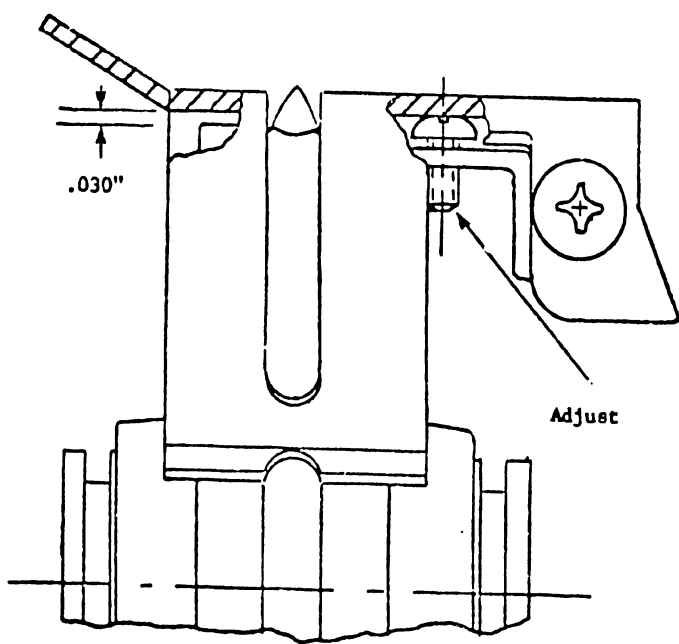

FIGURE 5-19 PAPER GUIDE COVER
- 2) The teeth of the sprocket should be centrally located in the cover slot as shown in Figure 5-19.
- 1) Adjust cover height with locking stop screw. Move screw down until a .030" (.76 mm) gauge begins to pinch between cover and rubber of sprocket. See Figure 5-19
- 2) Adjust sprocket cover pivot screws (2) to center teeth. This must be done to both paper guide assembly covers. The pivot screws act as eccentrics to center the cover.